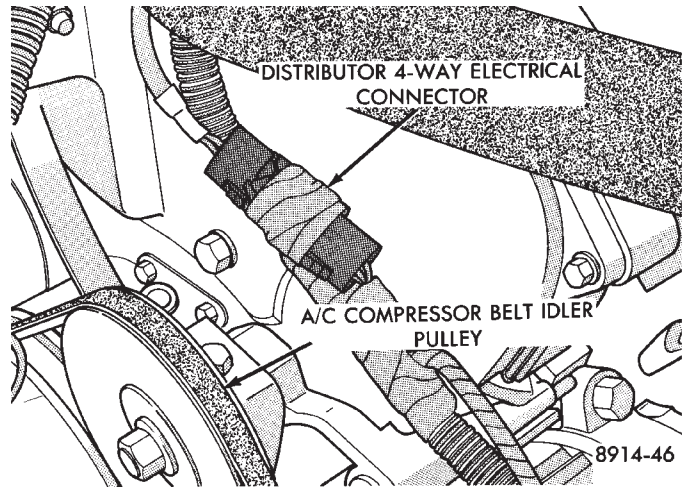

Fig. 20 Distributor Electrical Connector—3.0L Engine
- (1) Disconnect distributor connector from wiring harness connector (Fig. 20).
- (3) Install distributor cap. Ensure sure all high tension wires are firmly in the cap towers.
- (4) Install hold-down nut and finger tighten.
- (5) Connect distributor electrical connector to wiring harness connector (Fig. 20).
- (6) Set ignition timing to specification. Refer to Ignition Timing in this section.